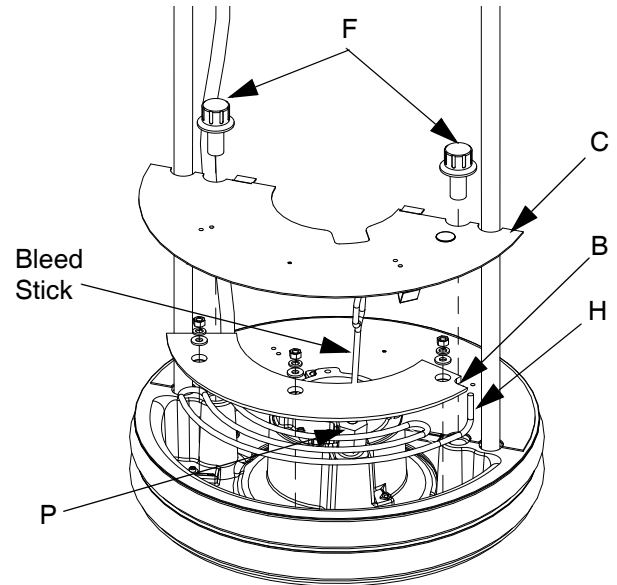

FIG. 3: Remove Platen Covers and Heaters
5. Remove bleed stick from platen. Push bleed stick through bleed relieve port (P) to remove material residue. See FIG. 3.
6. Remove platen covers. See FIG. 3.
- a. Remove platen cover fasteners (F).
- b. Remove both platen covers (C) and ground wire from platen.
7. Remove any excess fluid. Use a soft wire brush on heater coils (H). See FIG. 3.
8. Inspect platen heater blocks (B) or heater (H) for burn or melt spots. Replace platen heater if necessary. See FIG. 3.